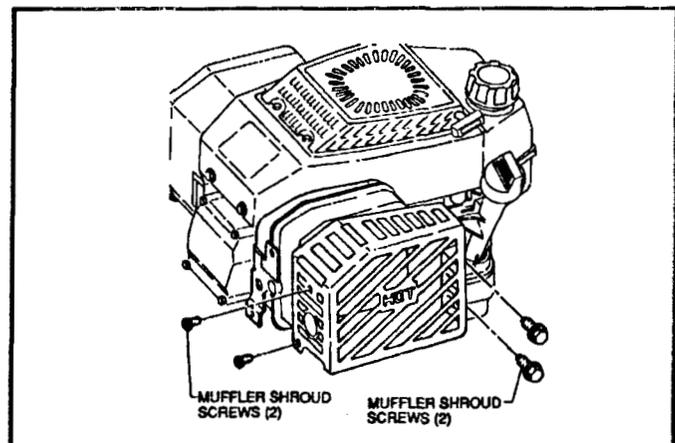

Figure 39
2. Remove two 5/16" hex, cap screws from the front of the muffler shroud. See Figure 39.